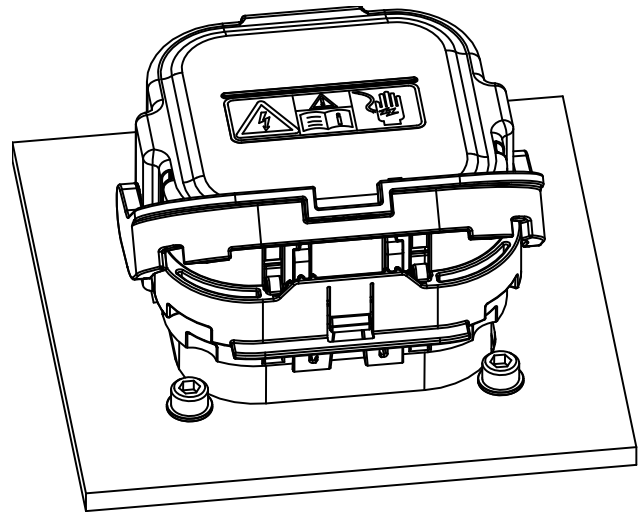

Figure 8
2. Rotate the lever arm until it stops in the intermediate position, at approximately 45° from the pack housing as shown in Figure 8. At this stage, the high voltage inter-lock connection has been broken and the circuit is de-energized.